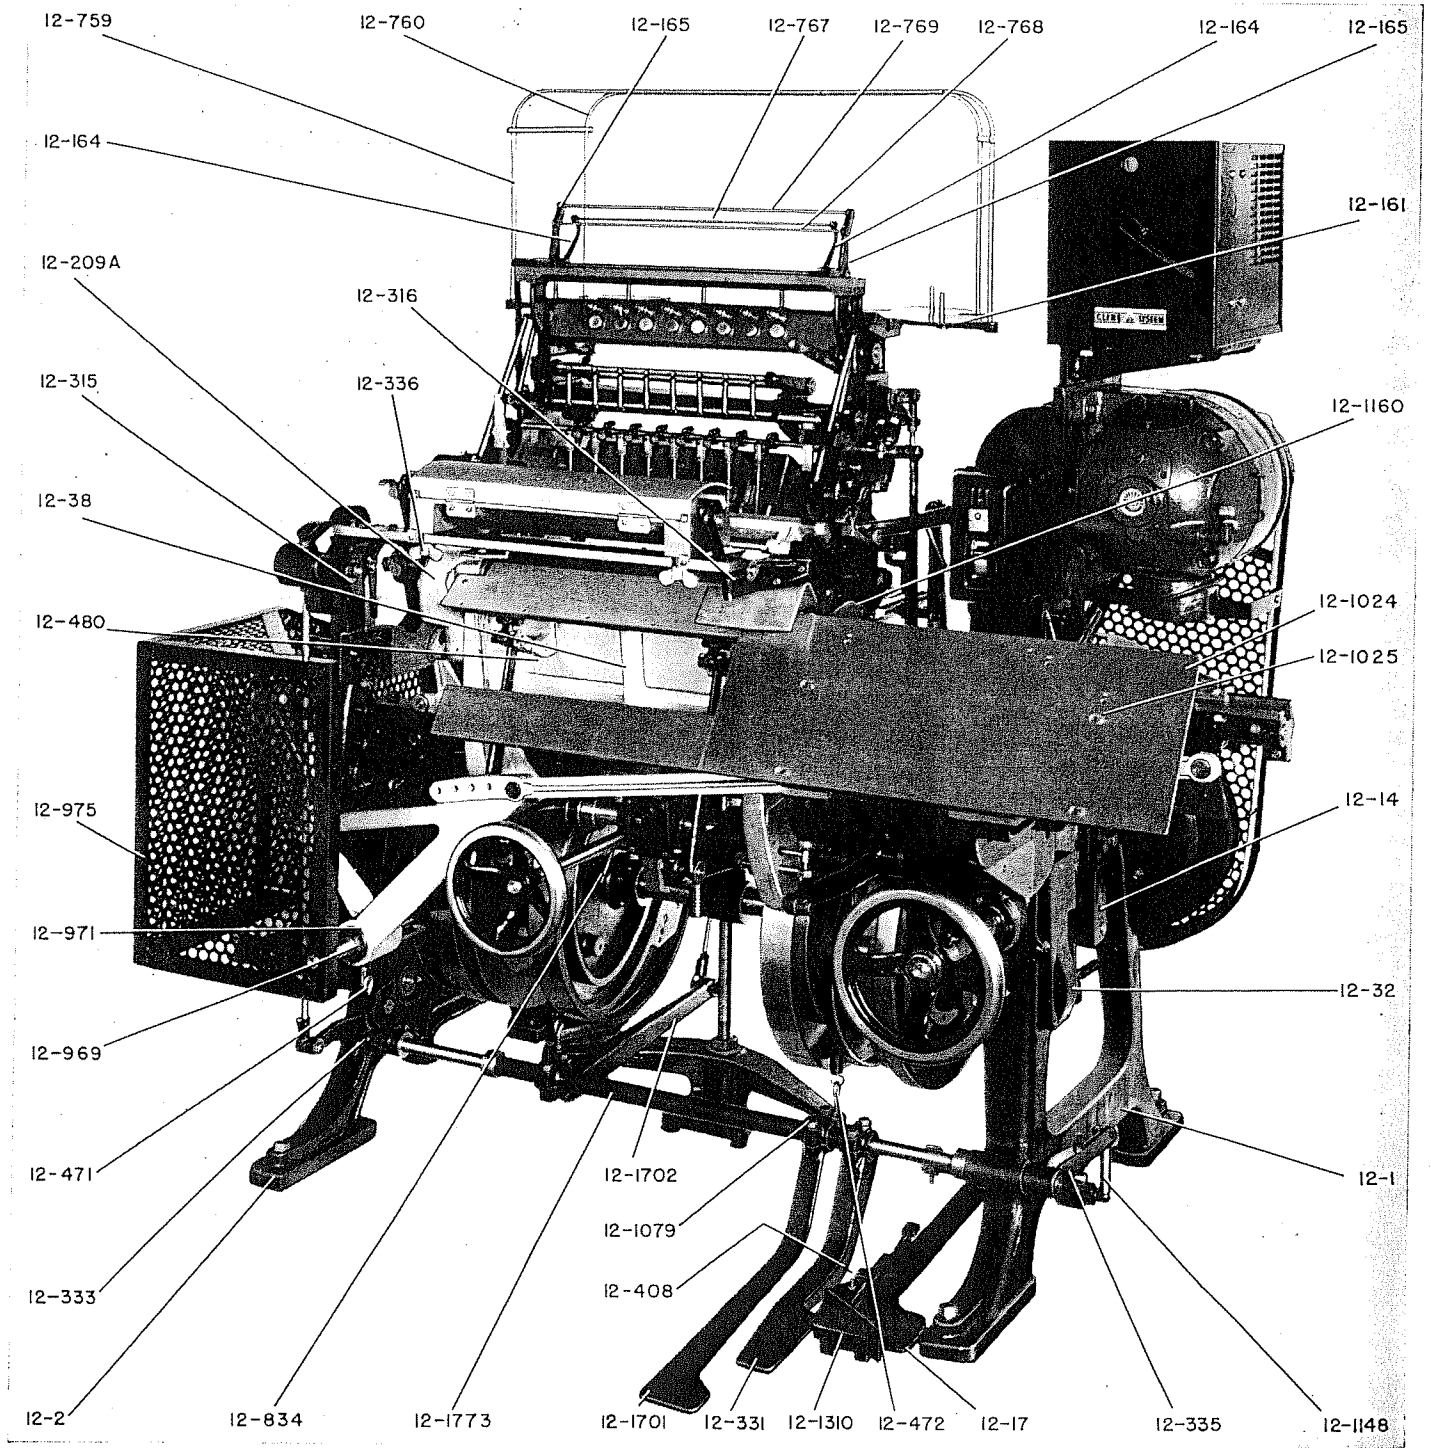

Figure 14—Right Front View (Parts)
**W**hen ordering parts for the Smyth No. 12 Semi-Automatic Book Sewing Machine the illustrations and lists in this section should be used as reference for identifying the parts. The photographs (Figures 14 through 19) show the numbers of many of the parts that are visible on the outside of the machine. The cams and associated parts are shown in Figure 20; first and second shaft parts are shown in Figure 21; some thread tension mechanism parts are shown in Figure 22 (others are shown in Figure 31); and some automatic cut-off parts are shown in Figure 23 (others are shown in Figure 32). All cam rolls and cam roll studs are shown in Figure 35. All screws and nuts, except those used only in the special attachments (automatic cut-off, crash, and signature guard), are shown in Figures 36, 37 and 38.
## PARTS LIST FOR FIGURE 14